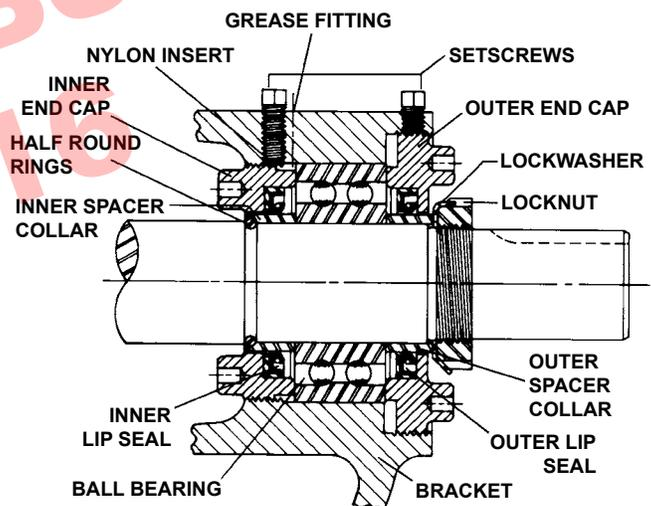

FIGURE 7
5. Tap shaft forward approximately 0.50 inch and remove pair of half round rings under inner spacer collar. There is no pair of half round rings on Q, QS and M size pumps. **Refer to Figure 7, page 5.**
Place pair of half round rings on shaft and slide inner bearing spacer collar over half round rings to lock them in place. There is no pair of half round rings on Q, QS and M size pumps. **Refer to Figure 7.**
9. Press lip seal, lip facing end of shaft, in inner end cap and insert end cap through shaft end of bracket. Turn end cap clockwise, looking at shaft end, until it engages threads. End cap spanner wrench holes must be facing rotor. Turn end cap with spanner wrench until it projects slightly from opening on side of bracket. End cap must not be turned so far that lip seal drops off end of spacer collar on shaft or end cap becomes disengaged from threads. **Refer to Figure 7.**
11. Press lip seal, lip facing end of shaft, in outer end cap and insert end cap in bracket. Turn end cap in bracket until it is tight against bearing. **Refer to Figure 7.**
12. Put lockwasher and locknut on shaft. Insert length of hardwood or brass through port opening between rotor teeth to keep shaft from turning. Tighten locknut to 120-150 ft.-lbs. Torque (LS) or 170-190 ft. - lbs. Torque (Q, QS, M). Bend one tang of lockwasher into slot of locknut. If tang does not line up with slot, tighten locknut until it does. Failure to tighten locknut or engage lockwasher tang could result in early bearing failure and cause damage to rest of pump.
Refer to Figure 7.